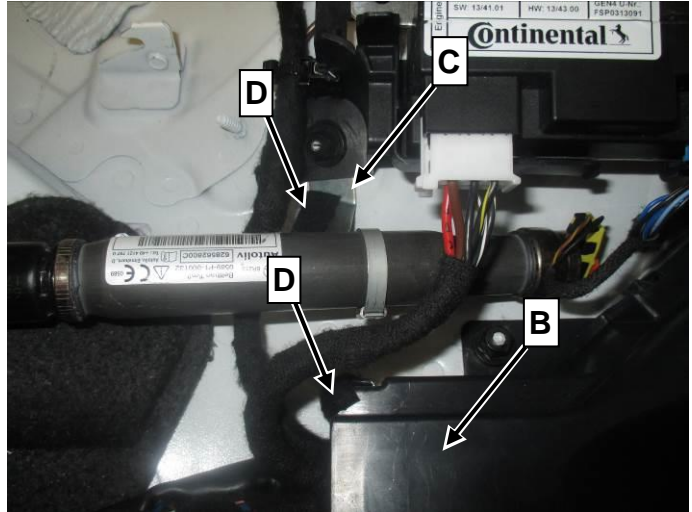

Figure 3
4. Cover edge of cable duct (B, Figure 3) and mounting bracket (C [if equipped]) with felt tape (D) to prevent wire chafing.